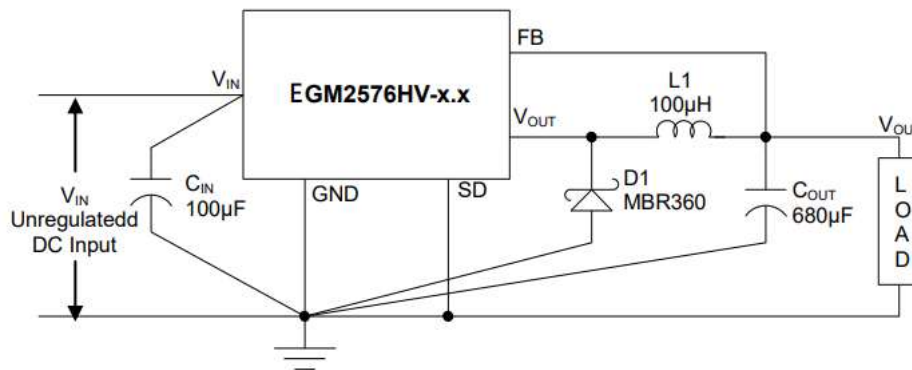

Figure 1 Fixed Output Voltage Versions
- External components such as the catch diode, inductor, input and output capacitors, and voltage programming resistors can affect switching regulator system performance. Where the EGM2576HV is used as shown in Figure 1&2 test circuits.
Careful layout is important with any switching regulators. Rapidly switching currents associated with wiring inductance generate voltage transients which can cause problems. To minimize inductance and ground loops, the lengths of the leads indicated by heavy lines in Figure 1&2 below should be kept as short as possible. Single point grounding (as indicated or ground plane construction should be used for best results. When using the Adjustable version, place the programming resistors as close as possible to EGM2576HV, to keep the sensitive feedback wiring short.